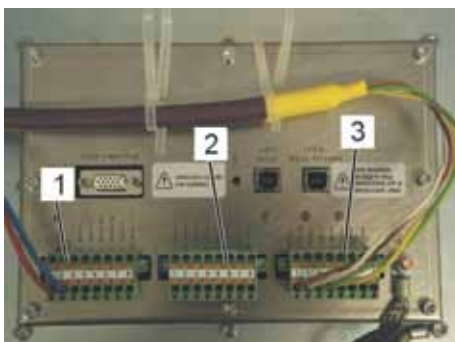

Fig. 81: Connectors
- n X11: Power supply and alarm contacts (Fig. 81/1)
- n X12: Alarm contacts (Fig. 81/2)
- n X13: Bus cable from Line Converter box (Fig. 81/3)
The power supply is connected to the connector X11 (Fig. 81/1).